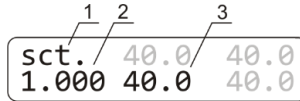

Figure 3. Display in calibration mode: 1. Calibration mode indicator; 2. Calibration coefficient; 3. Temperature with current coefficient
- 6.2 To change the calibration coefficient, hold the **TIME RUN/STOP** key pressed for more than 8 s to activate calibration mode. The calibration coefficient appears on the display (figure 3).
-  **Note.** Values marked in grey on figures 3 and 4 are not used in calibration and are meant for service engineers.
- 6.3 **Restoring factory settings.** Set 1.000 value using the ▲ and ▼ T, °C keys as shown on fig. 3/1 to restore the factory settings. Press the ►/■ **RUN/STOP** key once to save the changes and exit the calibration mode.
- 6.4.5 Hold the **TIME RUN/STOP** key pressed for more than 8 s to activate calibration mode (figure 3).